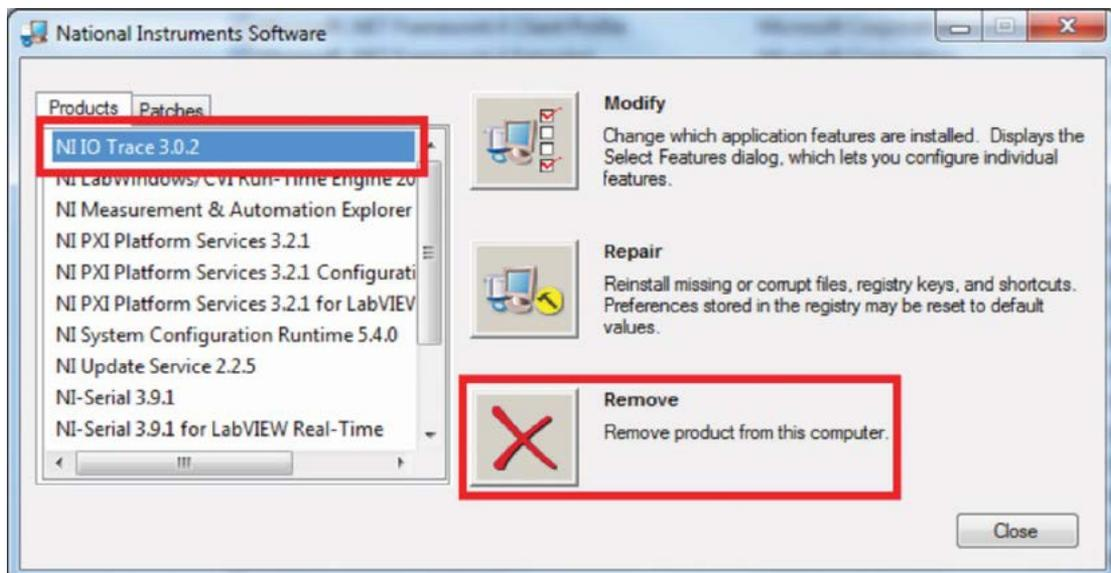

Figure 28: National Instruments Components
7. A separate dialogue box will open. National Instruments Software must be uninstalled in components. Highlight a component on the left-hand side. Then select “Remove” as shown in **Figure 28**.